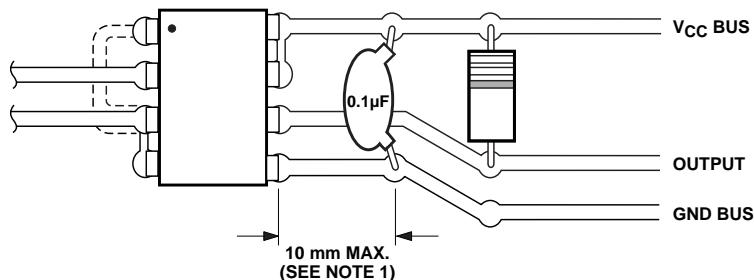

Figure 15. Recommended printed circuit board layout.
1. Bypassing of the power supply line is required with a  $0.1 \mu\text{F}$  ceramic disc capacitor adjacent to each optocoupler, as illustrated in Figure 15. Total lead length between both ends of the capacitor and the isolator pins should not exceed 10 mm.
assumes that good board layout procedures were followed to reduce the effective input/output capacitance as shown in Figure 15.